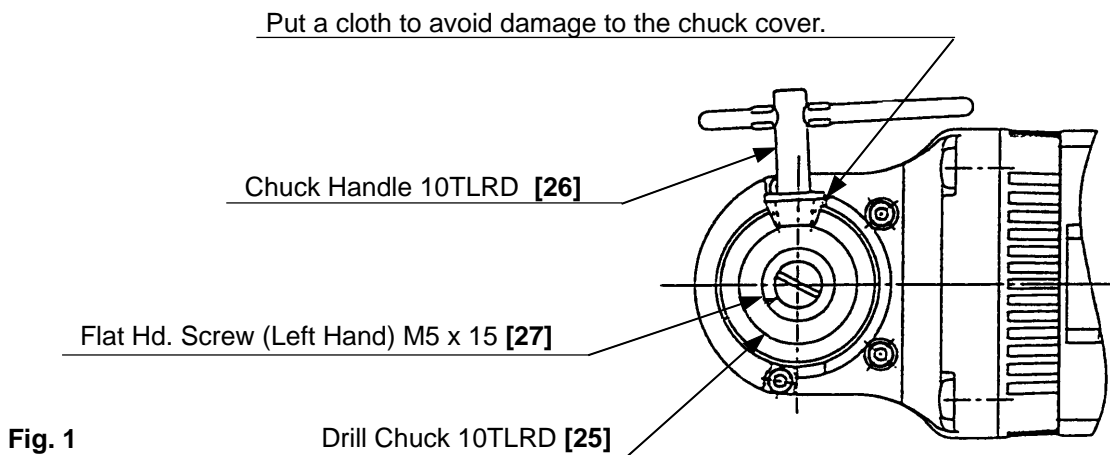

Fig. 1
(1) Replacement of the drill chuck
- (a) Insert the Chuck Handle 10TLRD **[26]** into the Drill Chuck 10TLRD **[25]** until the Drill Chuck 10TLRD **[25]** is secured to the Chuck Cover **[21]** (See Fig. 1). To avoid damage to the Chuck Cover **[21]**, put a cloth between the Chuck Cover **[21]** and the Chuck Handle 10TLRD **[26]**.